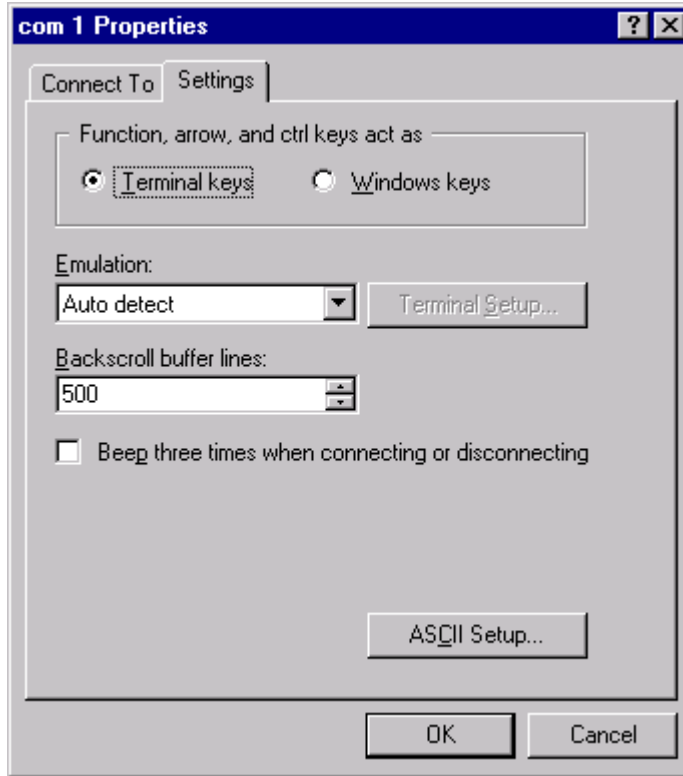

Figure 1-5
8. When Properties window appears (Figure 1-5), select the Settings tab.